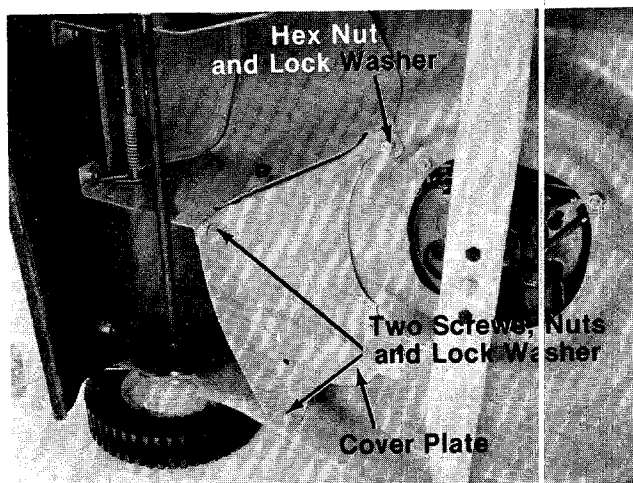

FIGURE 24.
7. Remove two screws, nuts and lock washers. Remove one hex nut and lock washer from cover plate. See figure 24.